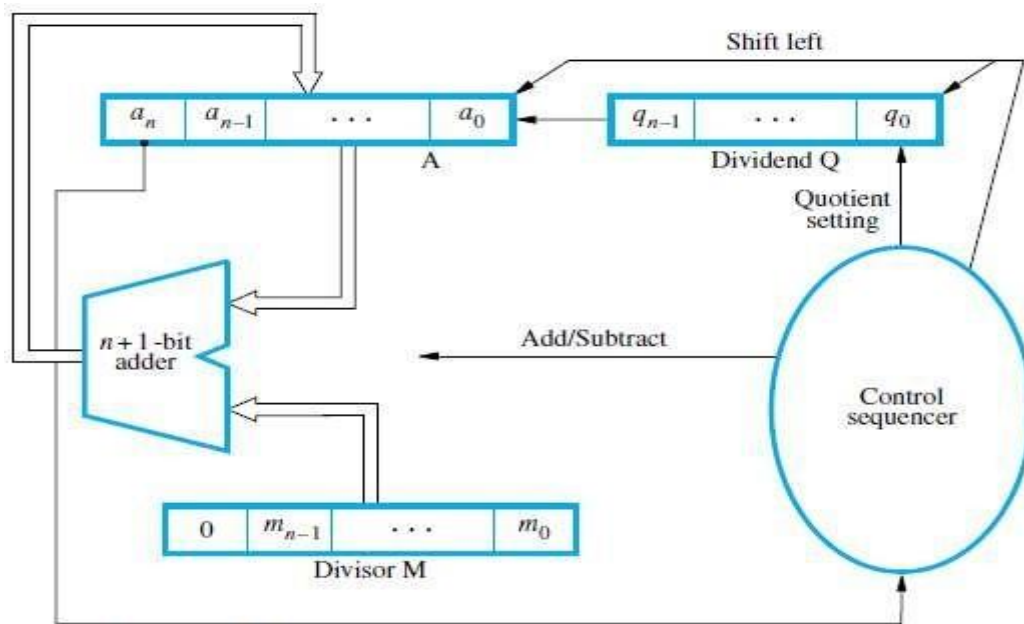

Figure 9.23 Circuit arrangement for binary division.
i) If the sign of A is 0, shift A and Q left one bit position and subtract M from A; otherwise, shift A and Q left and add M to A (Figure 9.23).